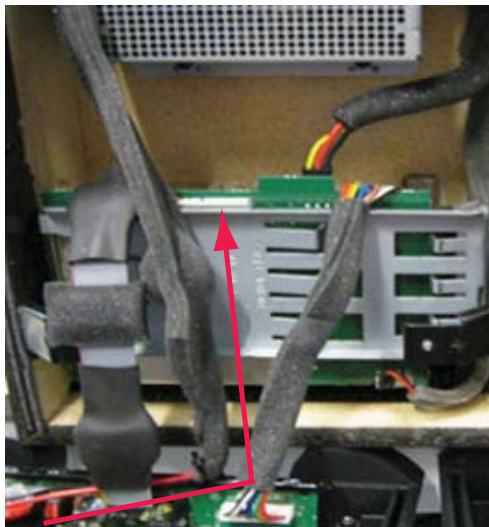

Figure 4.
2.7 Route the Primary PWR Cable to the inside of the coated flex cable. See figure 4.